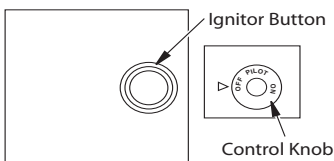

Figure 37 - Control Knob and Ignitor Button Location
5. Wait five (5) minutes to clear out any gas. Then smell for gas, including near the floor. If you smell gas, STOP! Follow "B" in the safety information, column 1. If you don't smell gas, go to the next step.
6. Press in and turn control knob counterclockwise ↺ to the PILOT position. Press in control knob for five (5) seconds (see Figure 37).